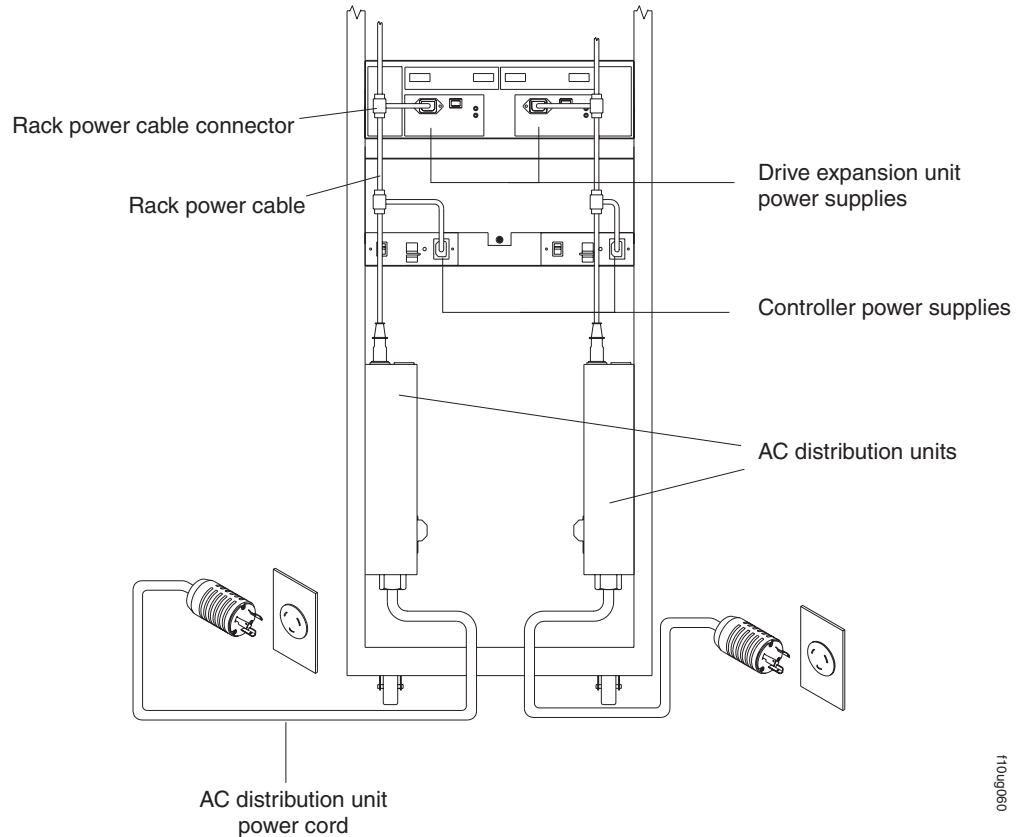

Figure 56. Redundant AC power connections to controllers and drive expansion units
See Figure 56 for an example of redundant power cabling.
- **DS4100 base storage server only:** To maintain power redundancy, plug the storage server's right and the left power supplies into two independent external power circuits through ac distribution units inside a rack cabinet or directly into external receptacles. Similarly, the right and left power supplies of the DS4000 storage expansion units attached to the DS4100 should be plugged into the same two independent external power circuits as the DS4100. This ensures that the DS4100 and all its attached storage expansion units will have power if only one power circuit is available. In addition, having all the right or all the left power supplies plug into the same power circuit will enable the components in the storage subsystem to power on simultaneously during an unattended restoration of power. See Figure 56 on page 62 for an example of redundant power connections.